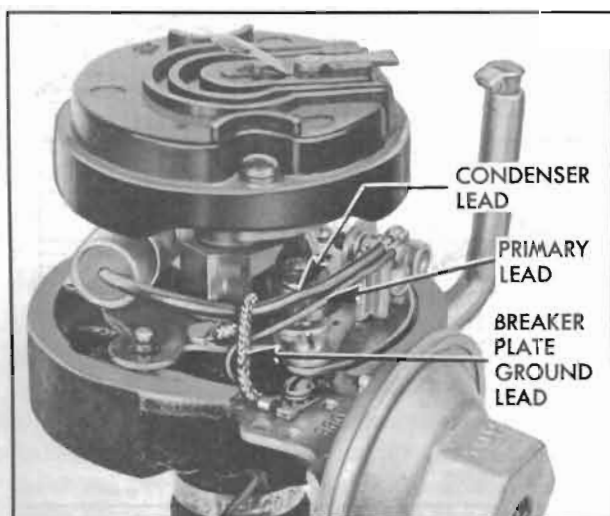

Figure 10-41—Locating Leads in Distributor
3. Install condenser and primary leads as shown in Figure 10-41.